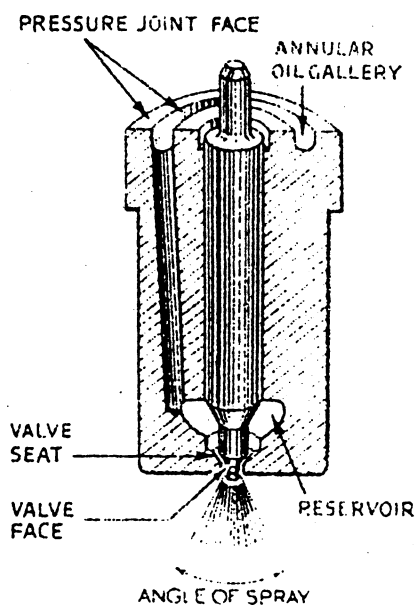

FIG. 120
The injector consists of two main parts, the nozzle and valve assembly (shown enlarged in Fig. 120) and the nozzle holder. The nozzle valve (3) takes the form of a double cone ended plunger, accurately lapped into the nozzle body (2) to the closest possible fit at which it will work freely. The actual clearance is approximately 1 micron (i.e., .001 mm., which is equivalent, in statute measurement, to approx. .0004"). The outer end of the nozzle valve is reduced in diameter in two stages to produce a stem upon which a valve face is formed whilst the inner end is provided with a locating peg to carry one end of the valve spindle (5).